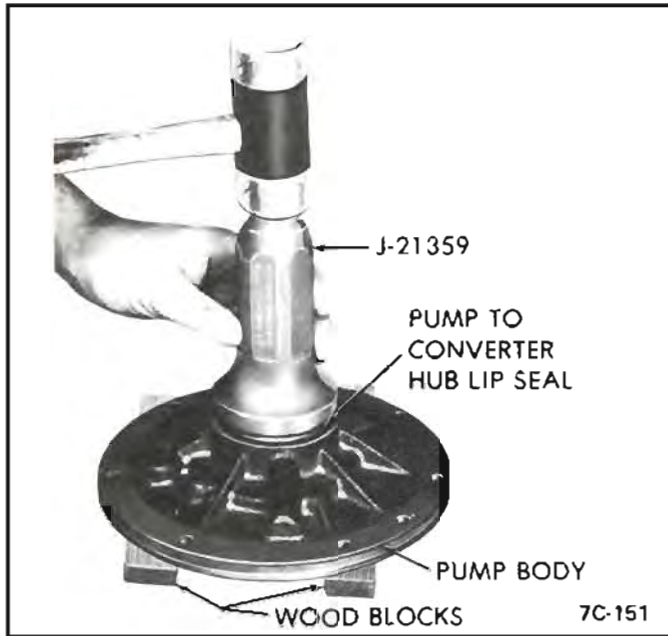

Figure 51 Converter Seal Installation
10. Place pump on wood blocks so surface finish is not damaged and install pump to converter hub lip seal using Seal Driver J-21359. *See Figure 51.* Make certain lip seal is not turned or nicked.